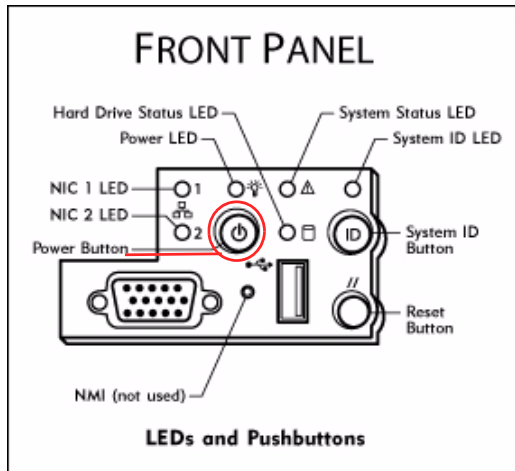

FIGURE 2-16 Power Switch and Front Panel Detail
- Press the Power button (FIGURE 2-16) on the front panel (behind the faceplate).